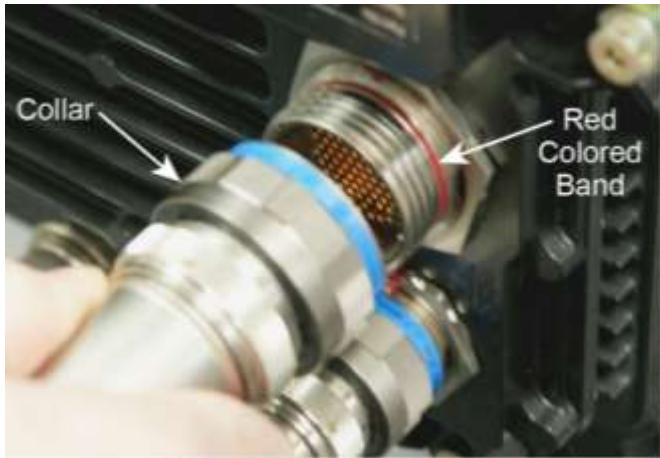

Figure 2
4. Tighten the collar on the threaded plugs. The plugs must be tightened, by hand, until the red colored band on the receptacle (Figure 2) cannot be seen from the side of the connection (Figure 3).